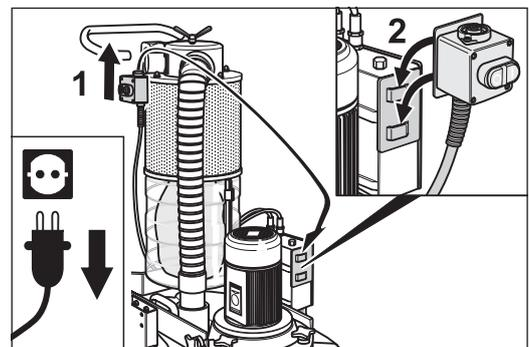

Fig. 52 Hook the on/off switch into the transport holder on motor switch box.
- 3** Remove the on/off switch from the chassis (fig. 52, 1) and hook it into the transport holder on motor switch box (fig. 52, 2).